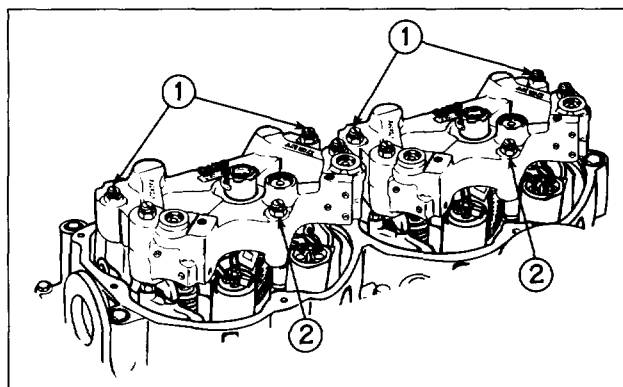

FIG. 12
Position the engine brake housings on the mounting stud nuts and align the slave piston foot squarely over the bridge screw and pin assembly. Install the Jacobs hold-down nuts (1) on the brake mounting studs and torque to $80 \pm 15 \text{ N}\cdot\text{m}$ ($59 \pm 11 \text{ lb}\cdot\text{ft.}$) (see Fig. 12).
Refer to Fig. 12. Install the 70 mm bolts (2) through the housing into the spacer (one per housing) and torque to $55 \pm 10 \text{ N}\cdot\text{m}$ ($41 \pm 7 \text{ lb}\cdot\text{ft.}$).